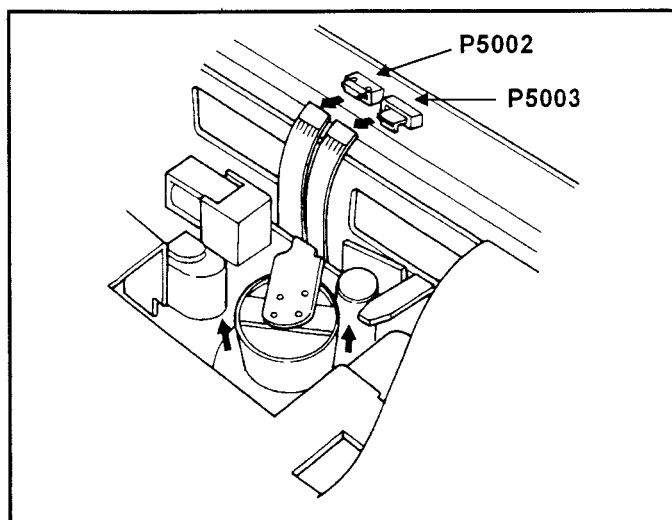

Figure 9
8. Disconnect the connector P5002 and P5003 on the RF AMP P.C.Board and unscrew the screw which is attached with the flexible board connector, then remove the cylinder unit without touching any mechanism parts as shown in Figure 9.